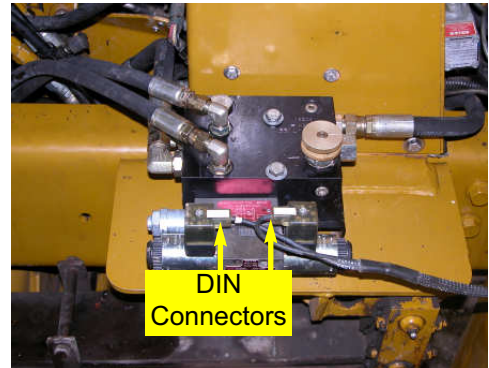

Figure 7b. Attached DIN connectors.
- b. Connect the DIN connectors to the valve coils of the Automated Steering Block. (Figure 7b.)